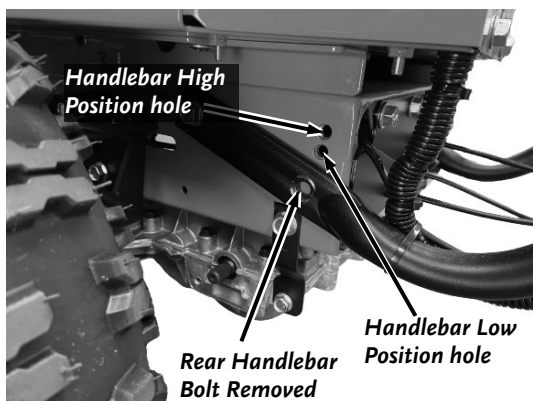

Figure 10
1. Remove Rear Handlebar Bolt with a 9/16" Wrench from both handlebars (**Figure 10**).